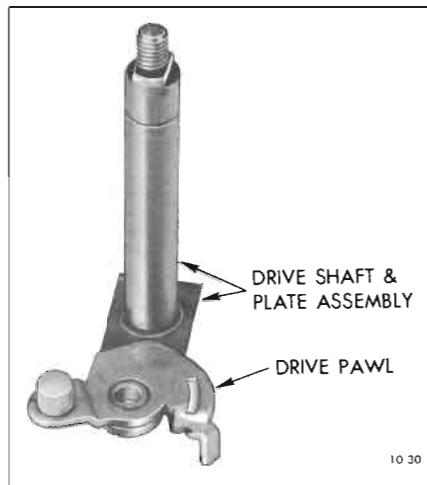

Figure 10-30—Assembling Drive Pawl on Drive Plate
1. Position drive pawl on drive plate as shown in Figure 10-30.